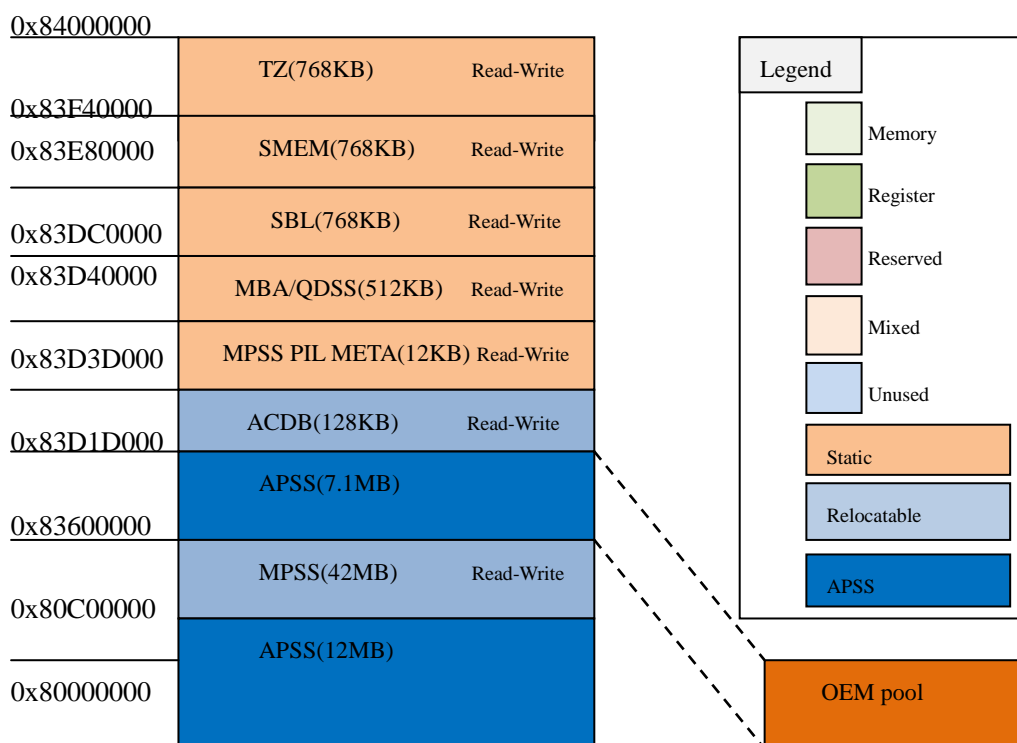

Figure 4-1 Memory map
- **OEM_POOL_SIZE** – By default, the pool size lies between ACDB region and MPSS region as indicated in Figure 4-1. It is not recommended to change the size without the required knowledge of the system memory map and module manager + module memory requirements.